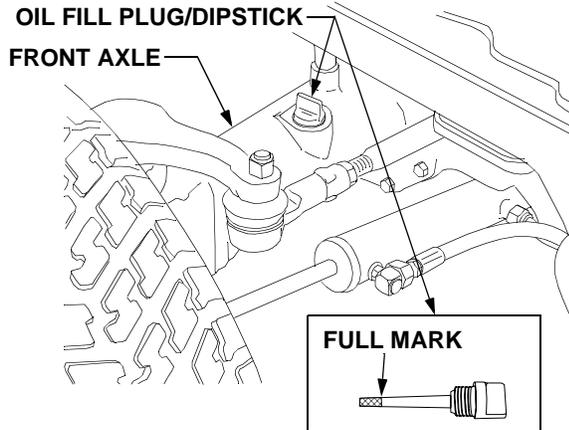
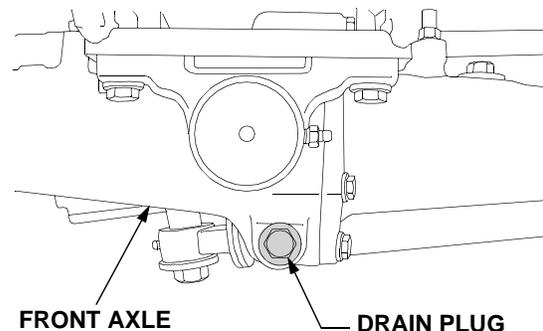

Figure 47
Figure 49
The oil fill plug/dipstick is located on the *left* side of the axle housing. See Figure 47.
- Clean the area around the oil fill plug/dipstick to prevent debris from entering the axle housing. See Figure 47.
- Withdraw the dipstick and wipe it clean, then reinsert and screw in all the way. Unscrew and withdraw again to read the oil level. Always keep the oil level between the bottom and the full mark of the dipstick (See Figure 47).
- To prevent debris from entering the front axle housing, clean the area around the oil fill plug/dipstick and the axle drain plug located at the center front of the axle. Refer to Figure 47 and Figure 49.
- Remove the oil fill plug/dipstick to help vent the axle, then remove the drain plug and allow the oil to drain into the container. Reinstall the drain plug after draining the oil. See Figure 49.